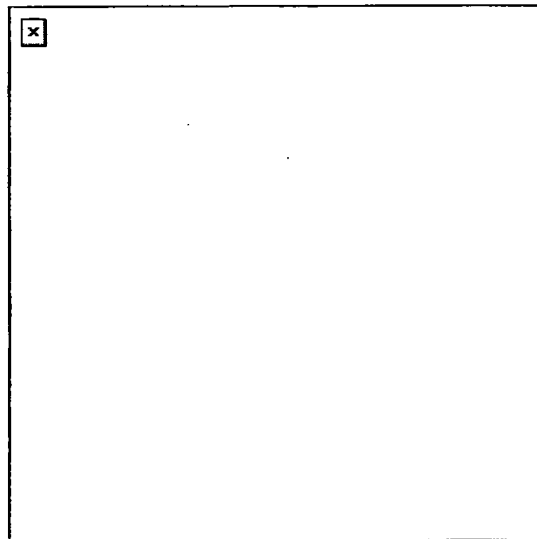

Figure 191-381-1369-1
- a. Team members 2 through 5. Grab the vest of the team member in front of you at the shoulder blade level, ready to push the team into the cell as the entrance to the cell is opened. Figures 191-381-1369-1 and 191-381-1369-2.